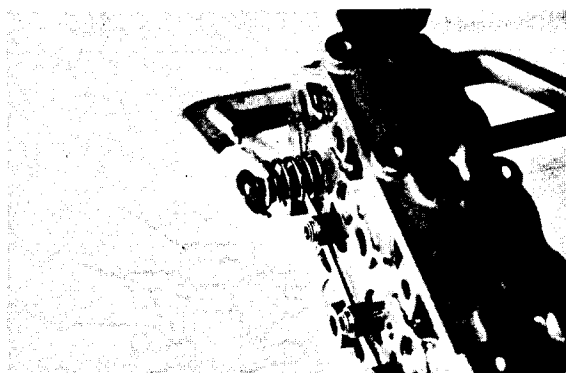
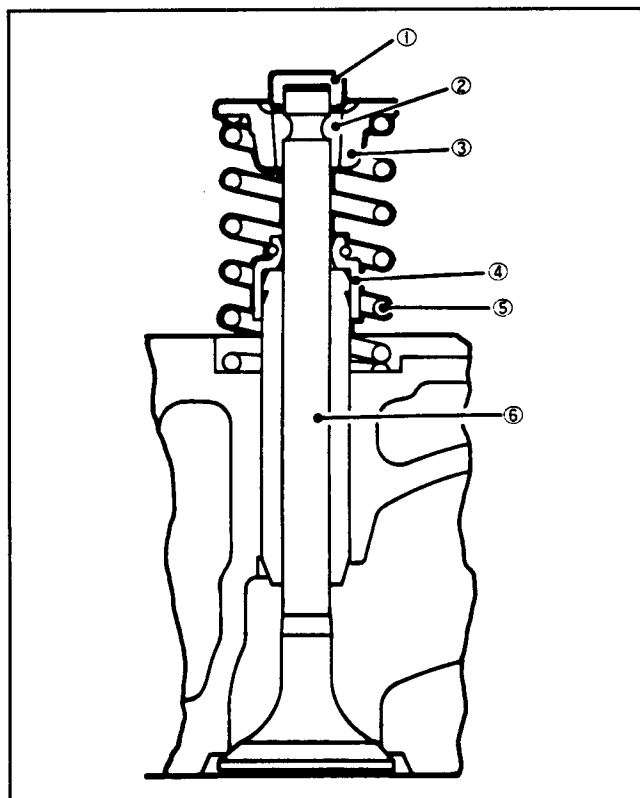

Figure 61
Figure 62
1. Use a valve lifter tool to compress the valve spring (Fig. 61). To remove each valve retainer, depress the retainer against the valve spring and remove the retainer lock (Fig. 62). Remove the valve retainer, spring and valve. Keep each valve and other parts for each cylinder separate so they can be reinstalled in the same cylinder.